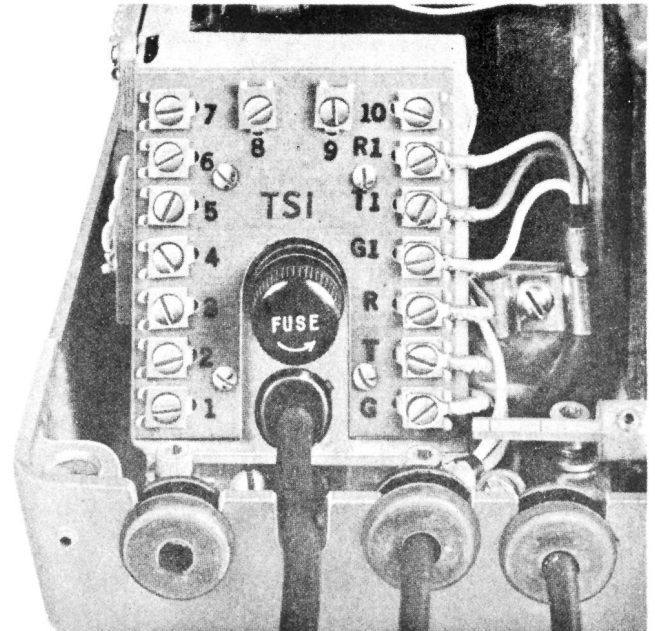

Fig. 9 - AC Fuse Holder and TS1
- 1.12 Fig. 9 identifies the ac fuse holder and TS1.